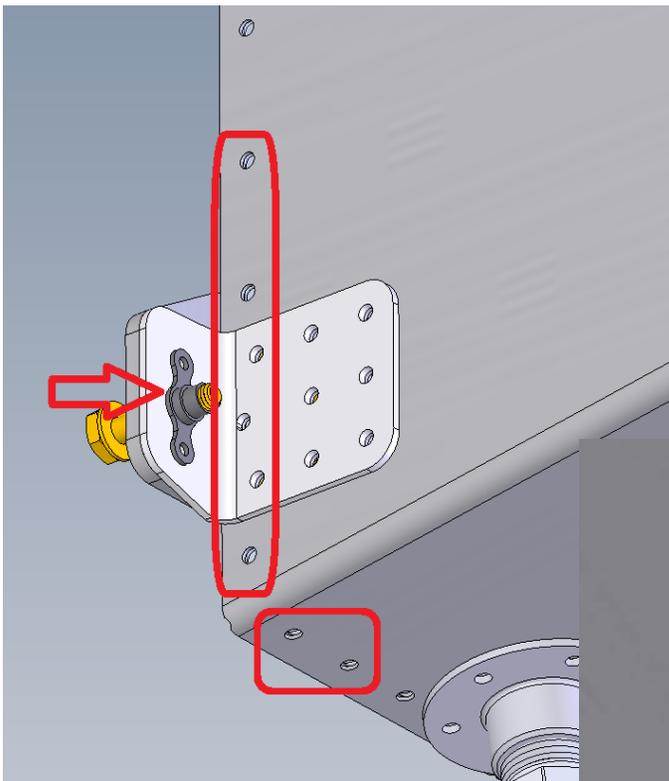

FIGURE 2: REMOVING INBOARD RIVETS AND NUTPLATES
Step 5: Remove the two K-1000-3 nutplates attached to the T-1205 Fwd Tank Bracket and save them for reinstallation later (Reuse of the old nutplates is beneficial. Since they have already had a bolt inserted, the prevailing torque of the locking feature will be lower which reduces the risk of over torquing and fracturing the frangible bolt). Removal of the rivets common to the doublers and other rivets depicted will greatly help with the removal process of the existing sealant. See Figures 2 and 3. See KAI Chapter 5 for further information on removing rivets.